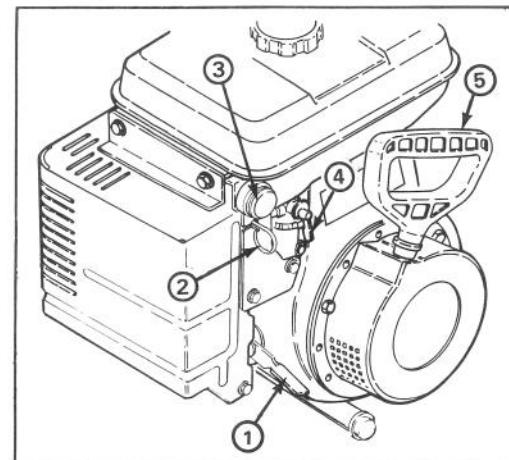

Figure 10
**Throttle (Fig. 10)** — Moving the throttle upward increases the engine speed.
**Choke (Fig. 10)** — Choke is located on back of engine cover. Pull choke out to HALF or Full choke position to start a cold engine. As engine warms up, push choke in gradually to OFF.
**Primer (Fig. 10)** — Push primer in to pump small amount of gasoline into engine for improved cold weather starting.
**Fuel Shut-Off Valve (Fig. 10)** — Valve is located under fuel tank. Close valve to stop fuel flow from fuel tank and open valve to allow fuel to flow to the carburetor. Close valve when snow-thrower is not used. Valve is open when in the vertical position as shown.
**Recoil Starter (Fig. 10)** — Recoil starter is on back side of engine. Pull recoil starter to start engine.
1. Move speed selector to N — neutral — and throttle midway between SLOW and FAST (Fig. 10).
3. Pull choke out to half choke position when temperature is above 0°F. and to full choke position when temperature is below 0°F. (Fig. 10).
5. Push primer (Fig. 10) twice if temperature is below 10°F. (Priming more than twice may cause fuel to spill from carburetor).
6. Grasp recoil starter handle (Fig. 10) and pull it out slowly until positive engagement results; then pull vigorously to start the engine. Keep firm grip on starter handle and return the rope slowly.
7. After engine starts gradually push choke in (Fig. 10).